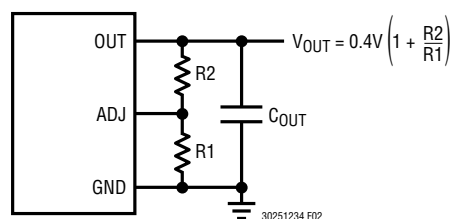

Figure 2. Programming the LTC3025-1
**ADJ (Pin 5) LTC3025-1:** Adjust Input. This is the input to the error amplifier. The ADJ pin reference voltage is 0.4V referenced to ground. The output voltage range is 0.4V to 3.6V and is typically set by connecting ADJ to a resistor divider from OUT to GND. See Figure 2.
The output voltage is set by the ratio of two external resistors as shown in Figure 2. The device servos the output to maintain the ADJ pin voltage at 0.4V (referenced to ground). Thus, the current in R1 is equal to  $0.4V/R1$ . For good transient response, stability, and accuracy, the current in R1 should be at least 8 $\mu$ A, thus the value of R1 should be no greater than 50k. The current in R2 is the current in R1 plus the ADJ pin bias current. Since the ADJ pin bias current is typically <10nA, it can be ignored in the output voltage calculation. The output voltage can be calculated using the formula in Figure 2. Note that in shutdown the output is turned off and the divider current will be zero once  $C_{OUT}$  is discharged.